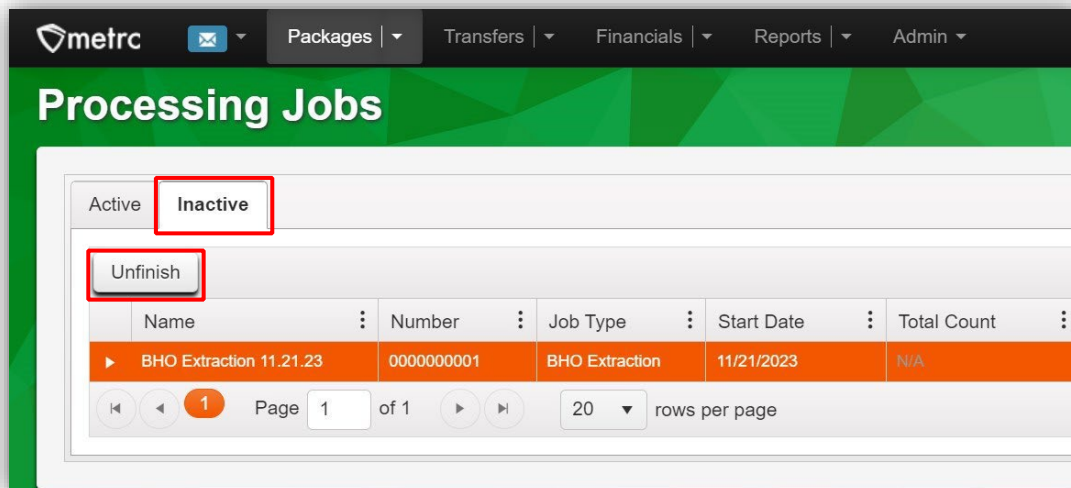

Figure 18: Accessing Unfinish Processing Job
- Go to the Processing Jobs grid found in the Packages drop-down in the Navigational Toolbar. Select the Inactive tab, highlight the Processing Job to unfinish, then select the Unfinish button to access the Unfinish Processing Job action window – **see Figure 18.**